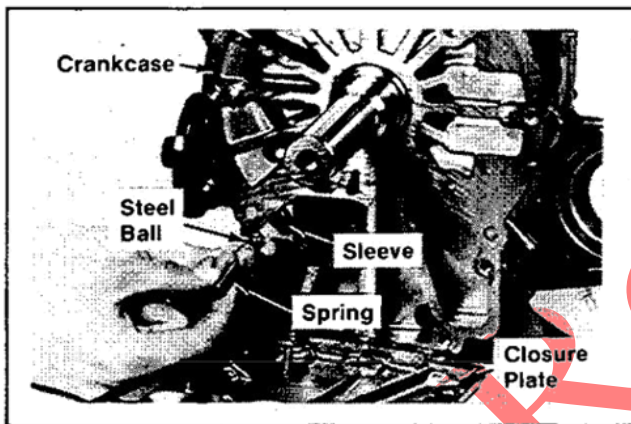

Figure 9-35. Removing Oil Pressure Relief Valve.
2. Remove the oil pressure relief valve spring, steel ball, and sleeve. Refer to Figure 9-35.